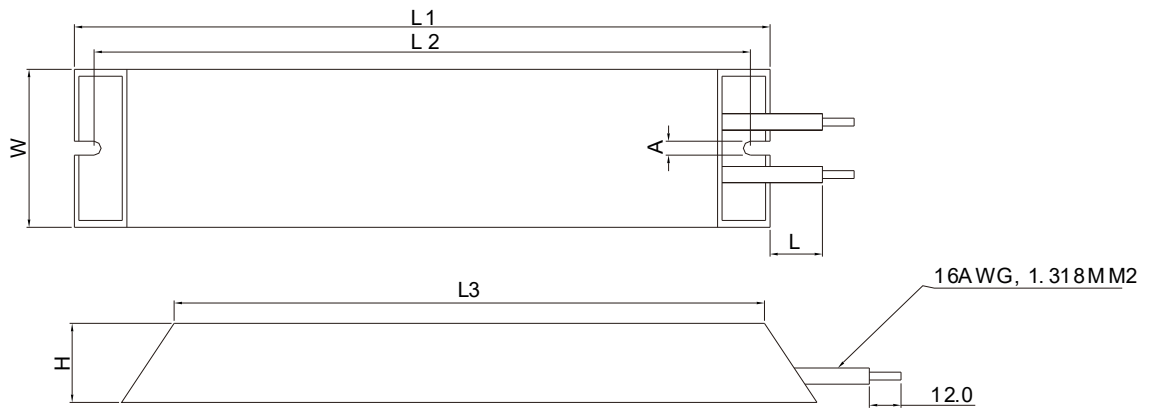

Figure 7-2
(2) Aluminum housed resistors: For below 1000W, see the following appearance of aluminum-housed resistor (Figure 7-2) and its model and specification comparison table (Table 7-3) for details.